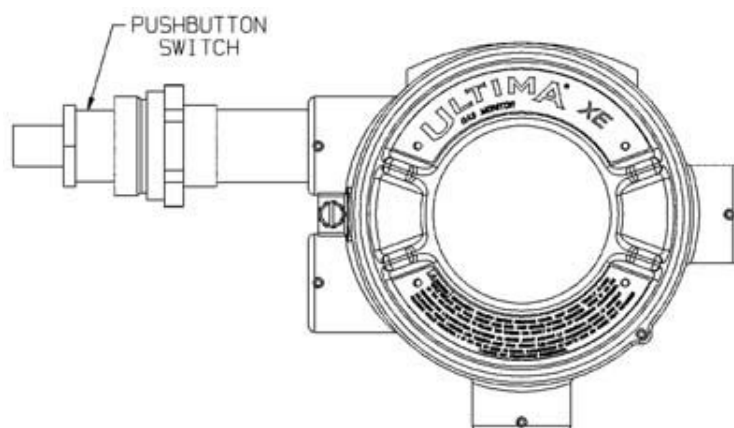

Fig. 25 Ultima X Optional Push-button Calibrator
- Optional Push-button Calibration (Fig. 25). Instructions for use of the optional push-button are given in 6 "Appendix A, Optional Features".